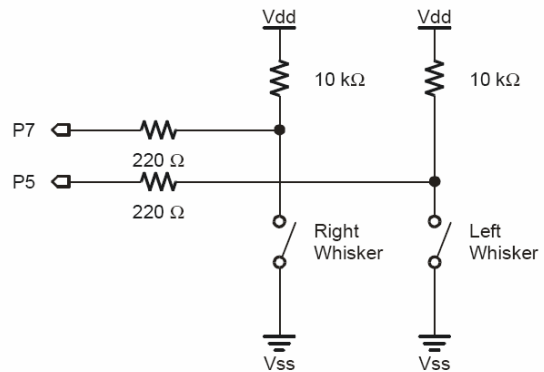

Figure 5: Whisker Circuit Diagram
2. When a whisker is pressed, what happens to the I/O pin monitoring it (see Figure 5)? Explain using circuit theory (i.e. the design of the circuit, circuit elements, etc.).